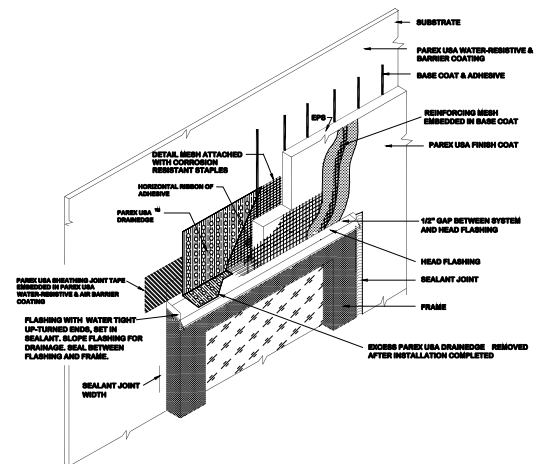

Fig. 14.1
**NOTE:** Cap flashing is a part of self-flashing (flange-type) windows, doors, etc. so those items must be installed prior to the installation of the Parex USA 369 DrainEdge and 356 Short Detail Mesh. Other types of commercial windows, doors and AC units may need to have metal cap flashing fabricated and installed above them to provide adequate protection. The final position of the object in the opening is critical and must be determined prior to the cap flashing installation. This is typically done by others but does affect the placement of your Parex USA 369 DrainEdge and 356 Short Detail Mesh. Shop drawings, communication and coordination are necessary to accomplish this detail, as it will vary from job to job. (See Parex USA EIFS Details for options). Seal the top of the cap flashing with Parex USA Sheathing Tape embedded in WeatherSeal Spray & Roll-On or Parex USA Flashing Membrane. (Fig. 14.1).
Install Parex USA 369 DrainEdge 1/4 in. (6mm) beyond both ends of the head, and Detail Mesh (1 in. (25mm) beyond both ends of the head of windows, doors, and AC units) above head of cap flashing. The Parex USA 369 DrainEdge Strip is installed first with the third row of holes from the bottom at the corner of the cap flashing. This should be attached with corrosion resistant staples. 356 Short Detail Mesh is then installed over the Parex USA 369 DrainEdge with corrosion resistant staples (Fig 14.1).
For Non-combustible construction, one ribbon or adhesive is installed horizontally as shown in Figure 14.1.